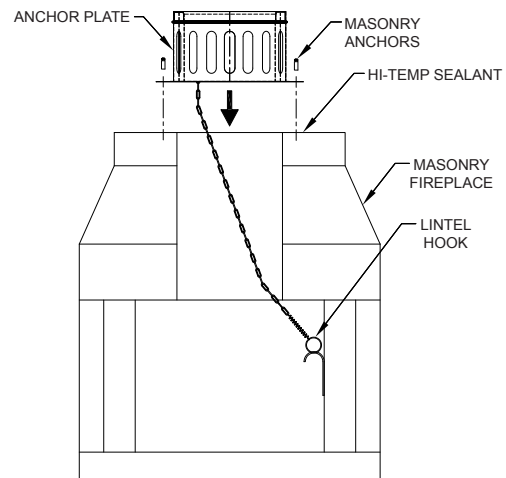

FIG. 1
It is important that the surface of the masonry chimney has a level surface on which to attach the Anchor Plate. If the top of the masonry does not have a level surface, then it will need to be modified accordingly. Center the Anchor Plate over the masonry flue opening. If a Damper is used, make sure nothing interferes with the damper plate movement. Seal the Anchor Plate in place with a high temperature sealant. Secure the Anchor Plate with four (4) masonry anchors. See **FIG.1**. If the Anchor Plate with Damper is installed the damper should swing freely. When the chain is pulled down, the damper should close (horizontal position). When the chain is released (no weight on the chain), the damper should swing open (vertical position). To install the lintel hook, place the damper plate in the closed (horizontal) position. Determine and mark the position of the lintel hook. The lintel hook should be mounted in a position so as to provide a small amount of tension in the spring attached to the chain. See **FIG. 1**. The tension is needed to prevent the damper plate from rattling when closed. Mount the lintel hook to masonry with the screws provided. Do not obstruct oval openings in the anchor plate.